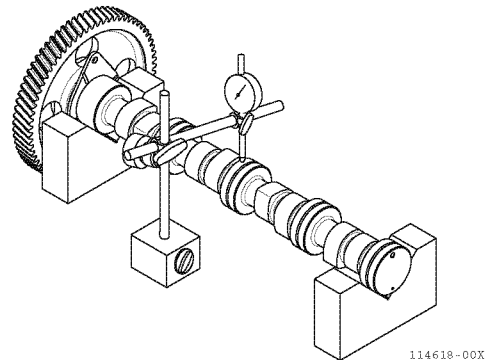

Figure 6-85
1. Use V-blocks and a dial indicator to check camshaft bend (**Figure 6-85**). Place the indicator on the center bearing journal.